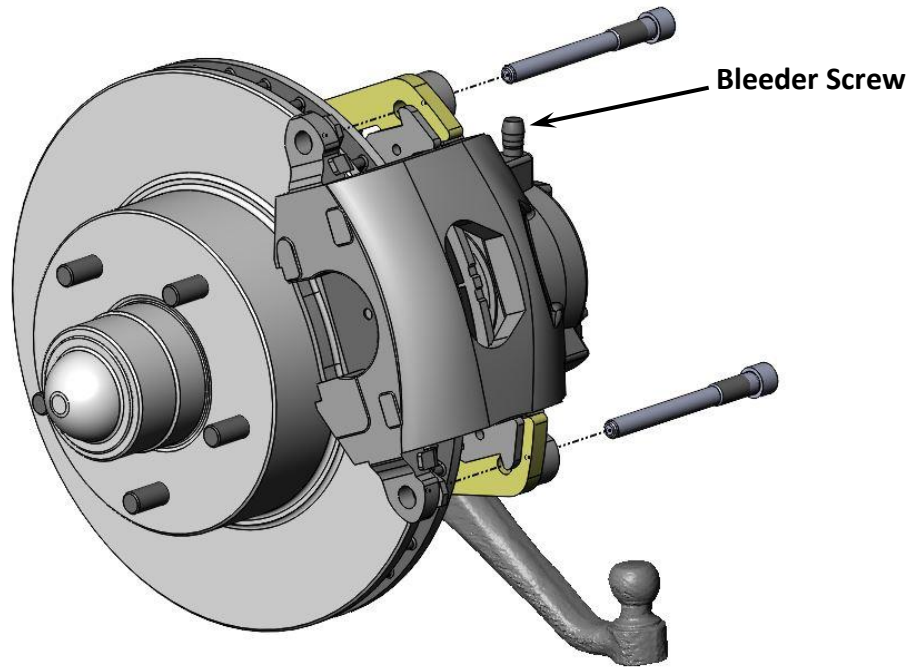

Figure 6 – Caliper Installed
- Mount the caliper to the caliper mounting bracket. With the pads installed in the caliper, slide the caliper over the rotor and line up the mounting ears of the caliper with the holes in the caliper mounting bracket. Tighten and torque the bolts to 45 ft/lbs. **NOTE:** When installing the calipers, make sure the brake bleeders are pointing upward. See Figure 6 on the next page for reference.